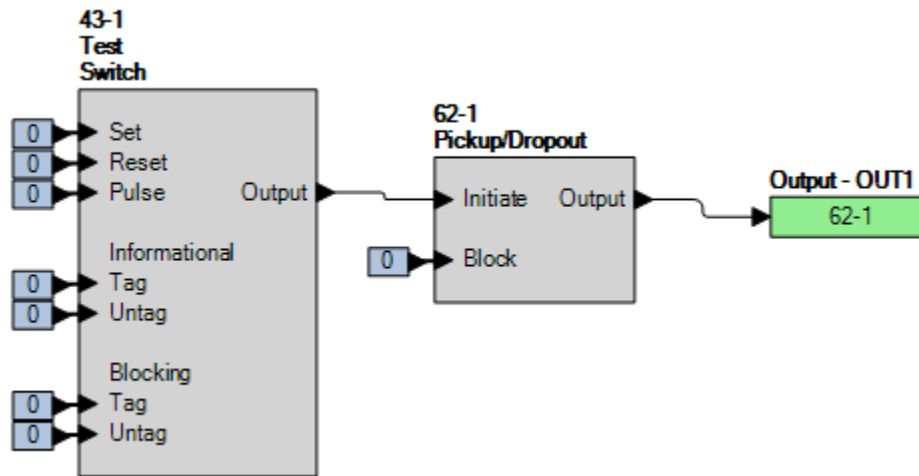

Figure 75-1. BESTlogicPlus Settings
Step 2: Use BESTCOMSP*lus* to configure the BESTlogic*Plus* programmable logic shown in Figure 75-1.
Step 1: Use BESTCOMSPi.us to send the operational settings in Table 75-2 to the BE1-11m. Retain the logic settings from Figure 75-1.
Step 1: Use BESTCOMSPi.us to send the operational settings in Table 75-4 to the BE1-11m. Retain the logic settings from Figure 75-1.
Step 1: Use *BESTCOMSPi* to send the operational settings in Table 75-5 to the BE1-11*m*. Retain the logic settings from Figure 75-1.